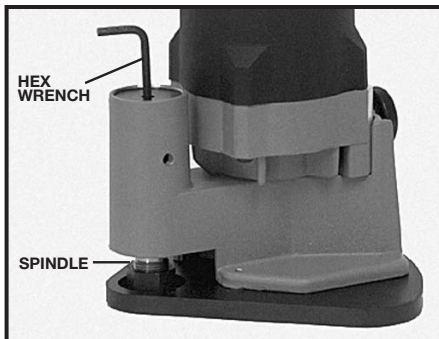

Fig. 11
2. Position hex wrench (furnished) to depth adjusting screw (See Fig. 11).